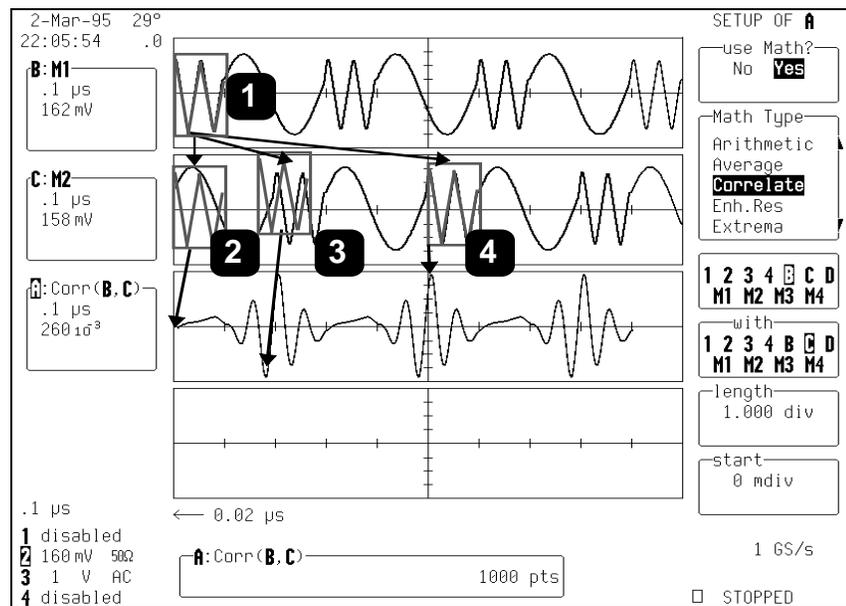
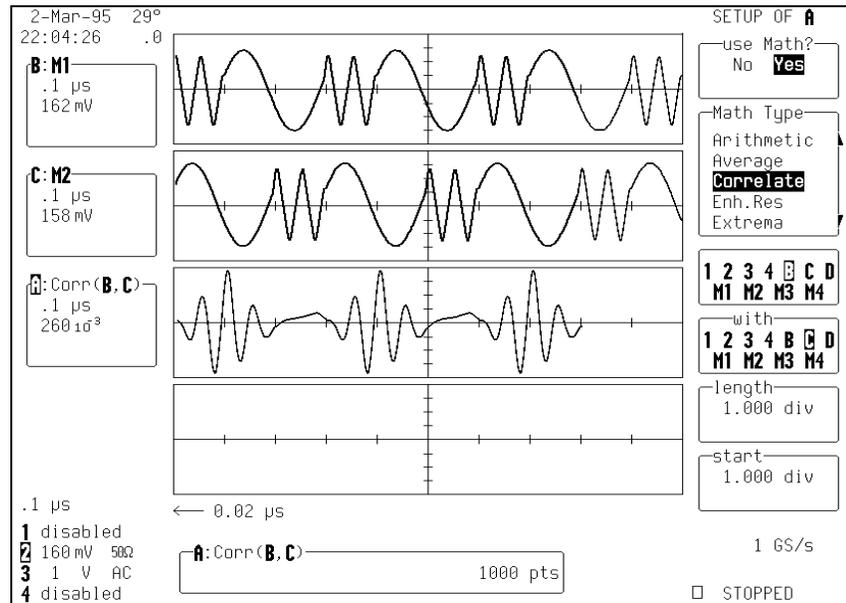

Figure 8.3
Figure 8.4
As the correlation function is a math function, “Yes” is selected from the “use Math?” menu, and the menus shown in *Figure 8.3* are accessed.
*Figure 8.4* on the following page shows the result of setting the “**start**” menu to one division. This menu is used for determining at what point in the “**with**”-selected waveform the selected section will begin the correlation. In this figure the selected waveform section from Trace B is initially correlated with the waveform in Trace C, starting at one division. The resulting correlation waveform is identical to the correlation waveform in the preceding figure 8.3, from one division on. Since the correlation starts one division from the start of the waveform in Trace C, it is reduced in length by one, to eight divisions.